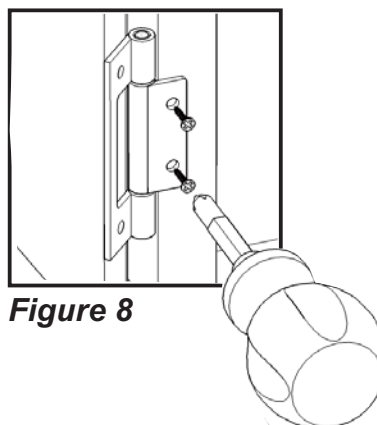

Figure 8
Attach Doors (U) and (V) to the Base unit with Wood Screws for Hinges. (see Figure 8)